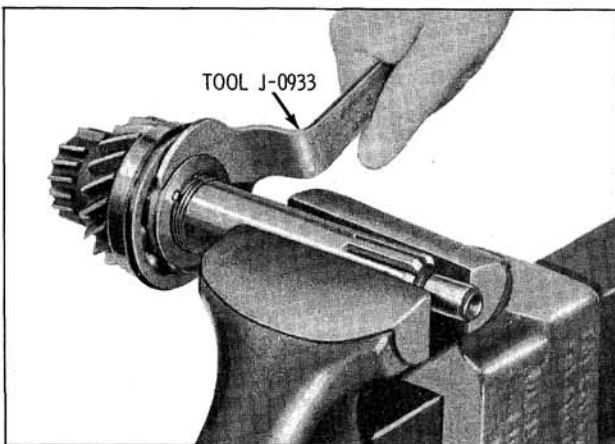

Fig. 7-13 Removing Bearing Retainer Nut and Oil Slinger
1. Place the clutch gear in a vise with soft jaws and remove the bearing retainer nut and oil slinger, using Tool J-0933. (Fig. 7-13) The retaining nut and oil slinger is a one-piece steel casting machined with a left-handed thread and is locked in place on the clutch gear shaft by being staked into a hole provided for that purpose. Drill out staking before removing nut.